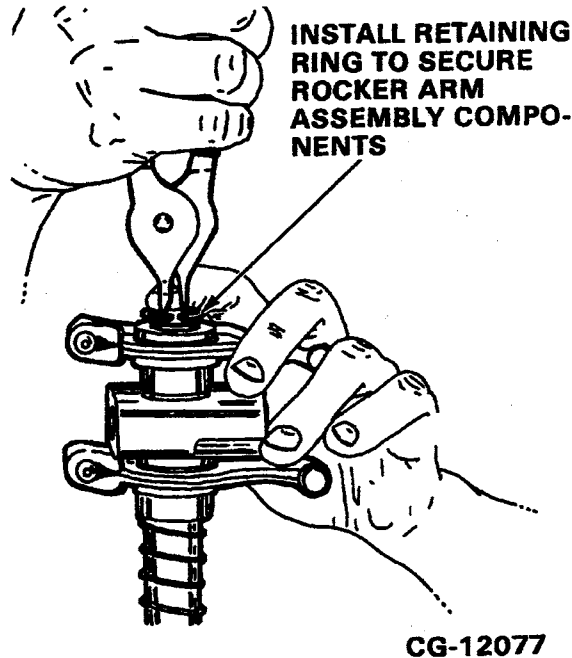

Figure 5.12. Install Retaining Ring
- When all components are on the shaft, in the correct order, install the second retaining ring to secure the components. Refer to Figure 5.12.